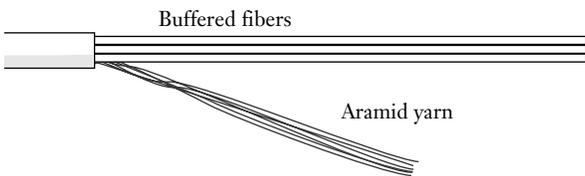

Figure 8
**4.8** Use scissors to cut the aramid yarn and central member to the lengths recommended in the documentation for the product you are installing (Figure 8).